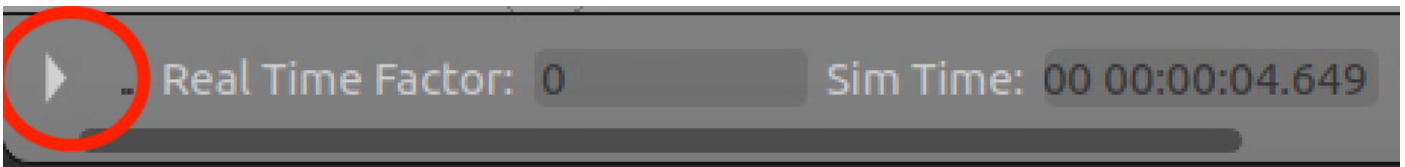

Figure 4: Play/Pause button in Gazebo environment
- Launch the simulation. Once the simulation is launched, pause it by clicking the "Pause/Play" button at the bottom left of the Gazebo window (refer to Figure 4).